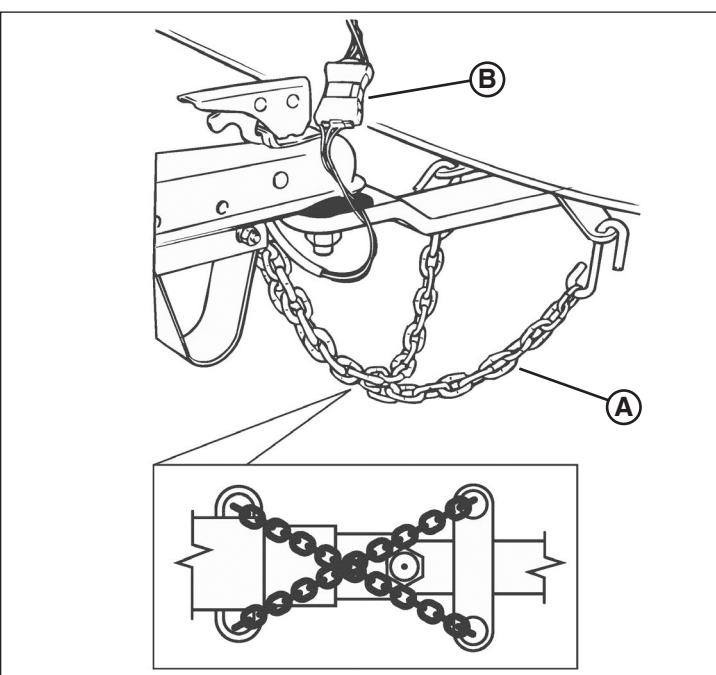

Figure 5
7. Attach the safety chains (**A**, Figure 5) to the tow vehicle's hitch frame. Cross the chains under the tongue as shown. Leave enough slack in the chains to allow for turns, but not so much that the chains will contact the road surface.
8. Connect the trailer lighting connector (**B**, Figure 5) to the tow vehicle lighting connector. Make sure the trailer lighting harness has adequate length to prevent disconnection when turning, but not so much length that the harness will contact the road surface. Once connected, check the stop, turn signal, tail, side marker and license plate lamps for proper operation.